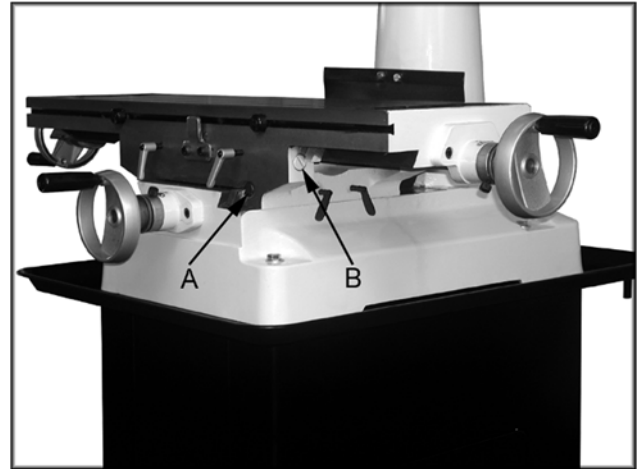

Fig. 13
1. The horizontal gib adjustment screw (A, Fig. 13) is found to the right on the table face. The traverse gib adjustment screw (B, Fig. 13) is found on the right side of the saddle under the table.